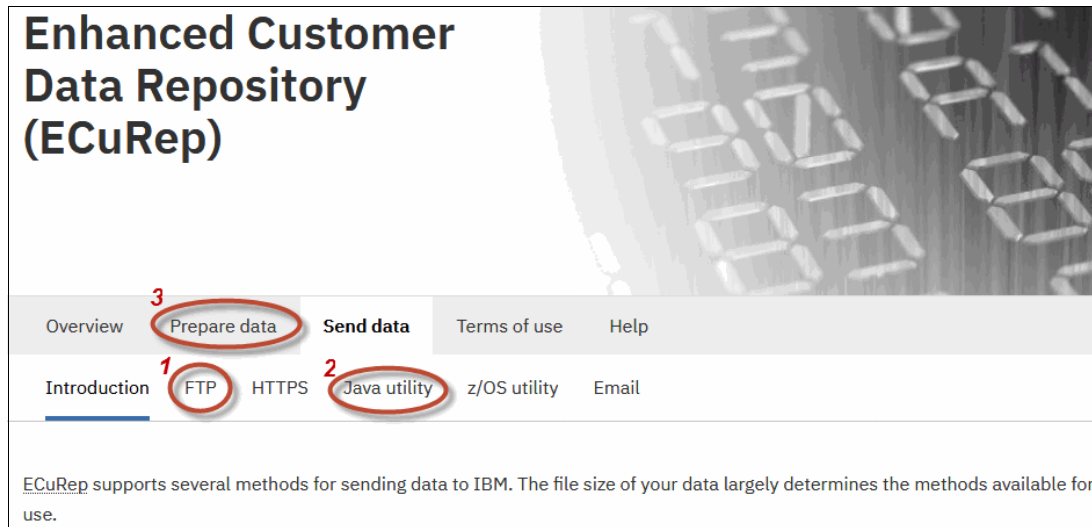

Figure 8-16 Options for sending data
2. IBM provides multiple options for uploading data. Review the options for sending data before you complete the PMR/Case number. The following options are shown in Figure 8-16 on page 331:
- As another way to upload a file other than using the standard method, you can select either FTP (1) or the Java utility (2). The Java utility is the most efficient method to upload a file.
- Select **Prepare data** tab (3) to see the details about file name conventions.
Figure 8-16 shows the ECuRep Help options.